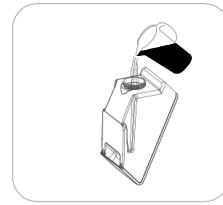

Fig. 9
- To the case with water, water from the army covered with water. (as in figure 9) if you water it is very high degrees of hardness of water resources management (consult), if possible please use the following of the mixed distillation water or soften : 50% of the water with fountain 50% distillation water or soften or drink water is pure water.